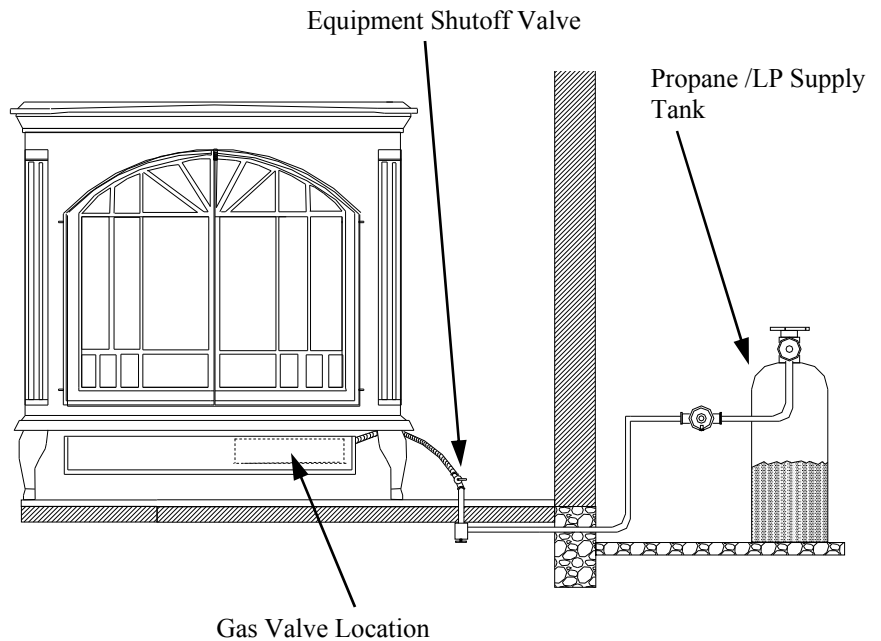
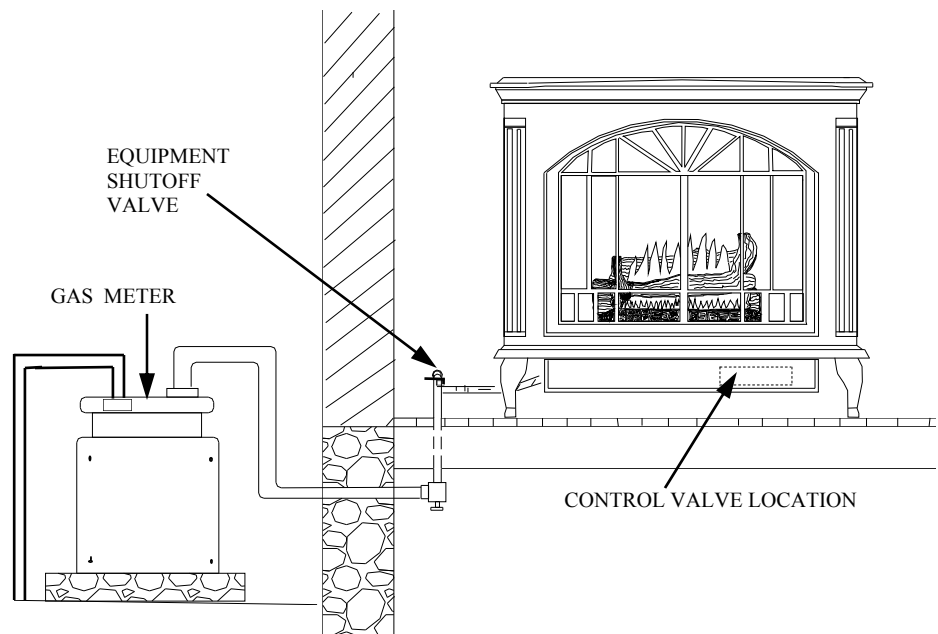

Figure 34– Checking Gas Joints for Propane/LP Gas Burner System
Figure 35– Checking Gas Joints for Natural Gas Burner System
3. Check all joints from propane/LP supply tank or gas meter to equipment shutoff valve (see Figure 34, page 17 for propane/LP or Figure 35, page 17 for natural). Apply commercial leak test solution to all gas joints. Bubbles forming show a leak. Correct all leaks at once.
4. Check all joints from equipment shutoff valve to thermostat gas valve (see Figure 34 for propane/LP or Figure 35 for natural). Apply commercial leak test solution to all gas joints. Bubbles forming show a leak. Correct all leaks at once.